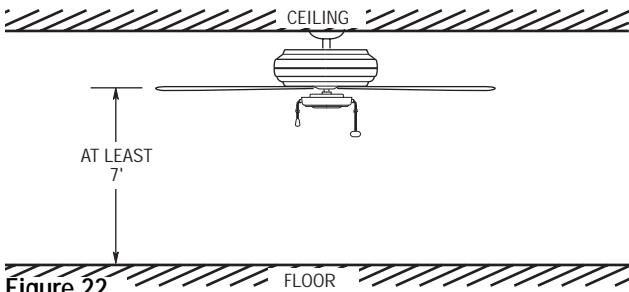

Figure 22
- 10. Screw two 1" threaded studs (provided) into the motor (Figure 22). Leave approximately 7/8" of the stud extending above the motor. Slide the motor cover over the downrod and rotate the cover until the threaded studs protrude; install two knurled knobs (supplied) to secure the cover.
The fan must be hung with at least 7' of clearance from floor to blades (Figure 22).